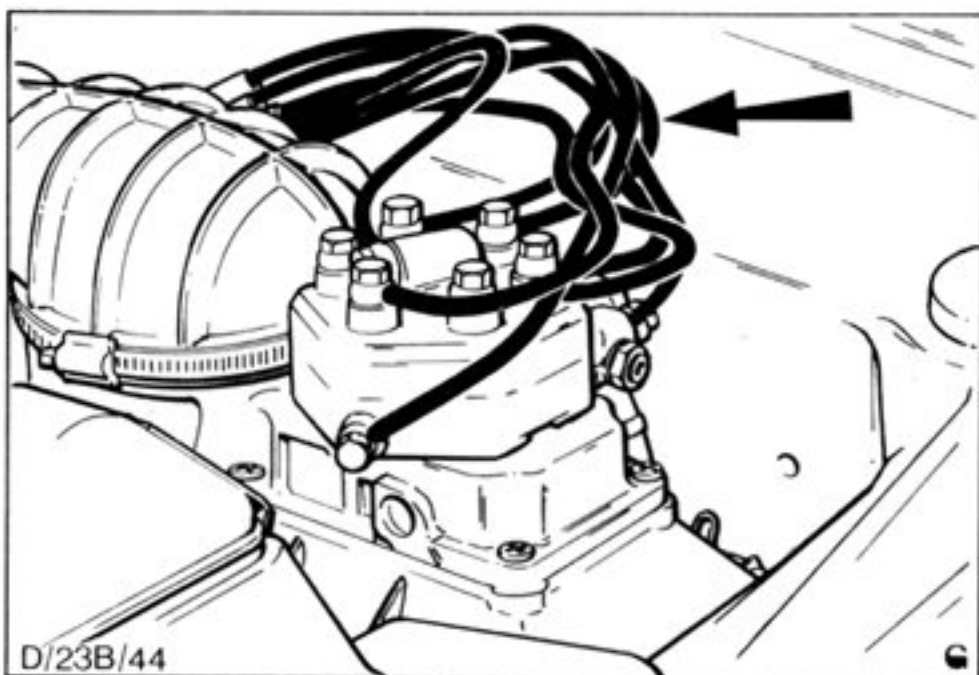

Fig.97. Injector supply pipes at fuel distributor.
6. Disconnect supply pipes at fuel distributor and detach pipes as an assembly, Fig.97.